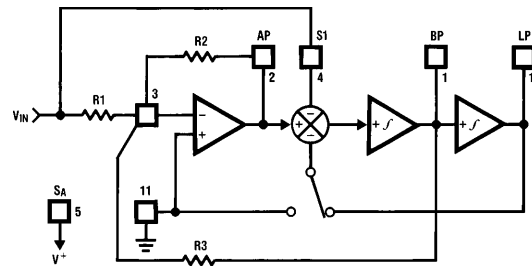

FIGURE 12. MODE 4
**MODE 4: Allpass, Bandpass, Lowpass Outputs (See Figure 12)**